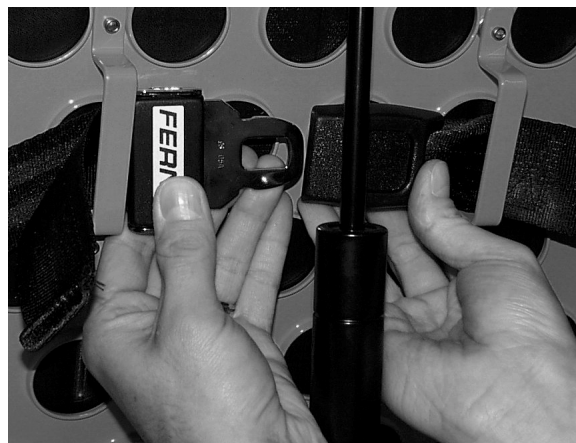

Figure 2
4. Wrap the straps around the backrest and insert the ends of the straps through the brackets. Securely fasten the buckle (see figure 2).